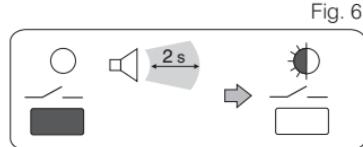

Fig. 6
- Hold the “—” key pressed until you hear a single audible signal; then let go: the LED will flash (fig.6).